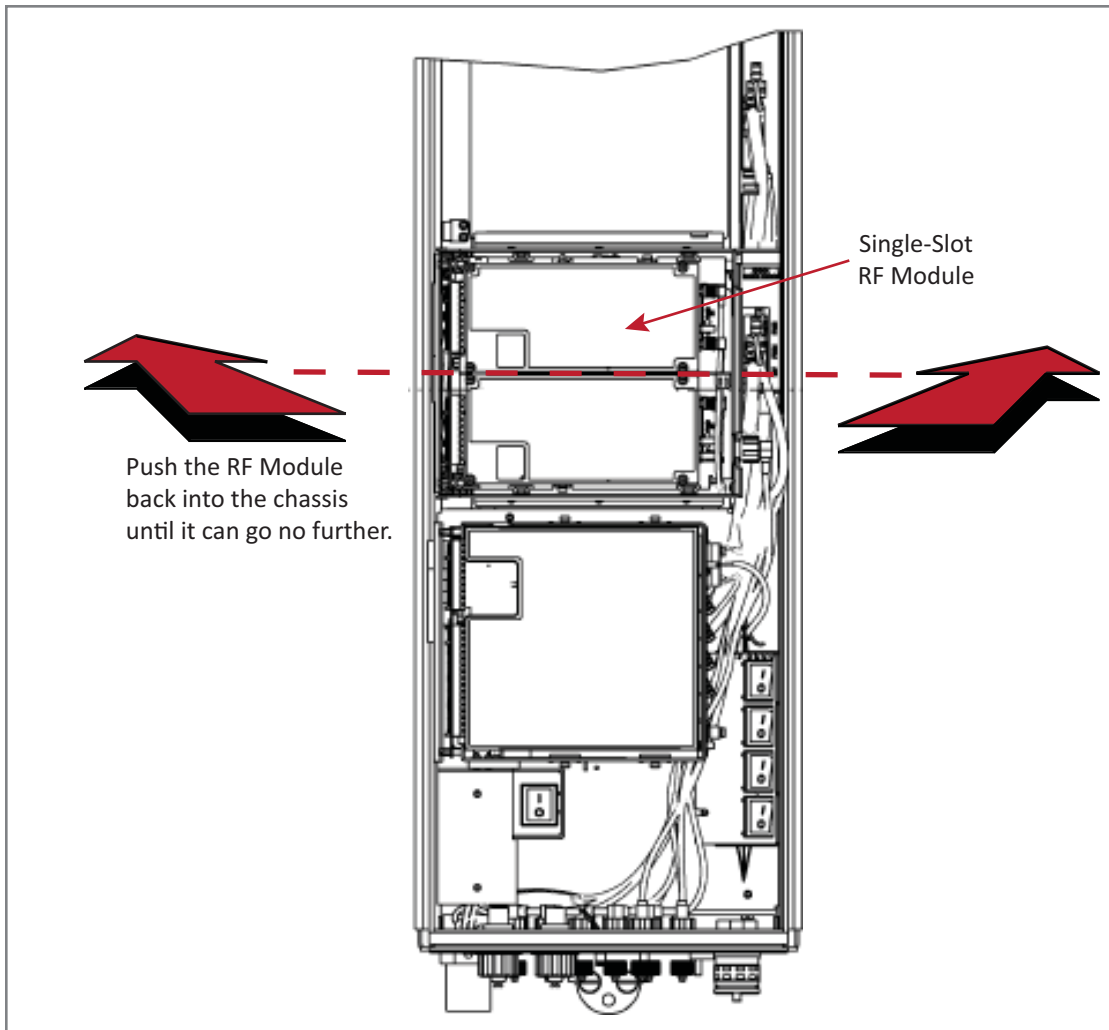

Figure 25. Seating a Single-Bay RF Module
- For Single-Bay RF Modules, see Figure 25 on page 96.